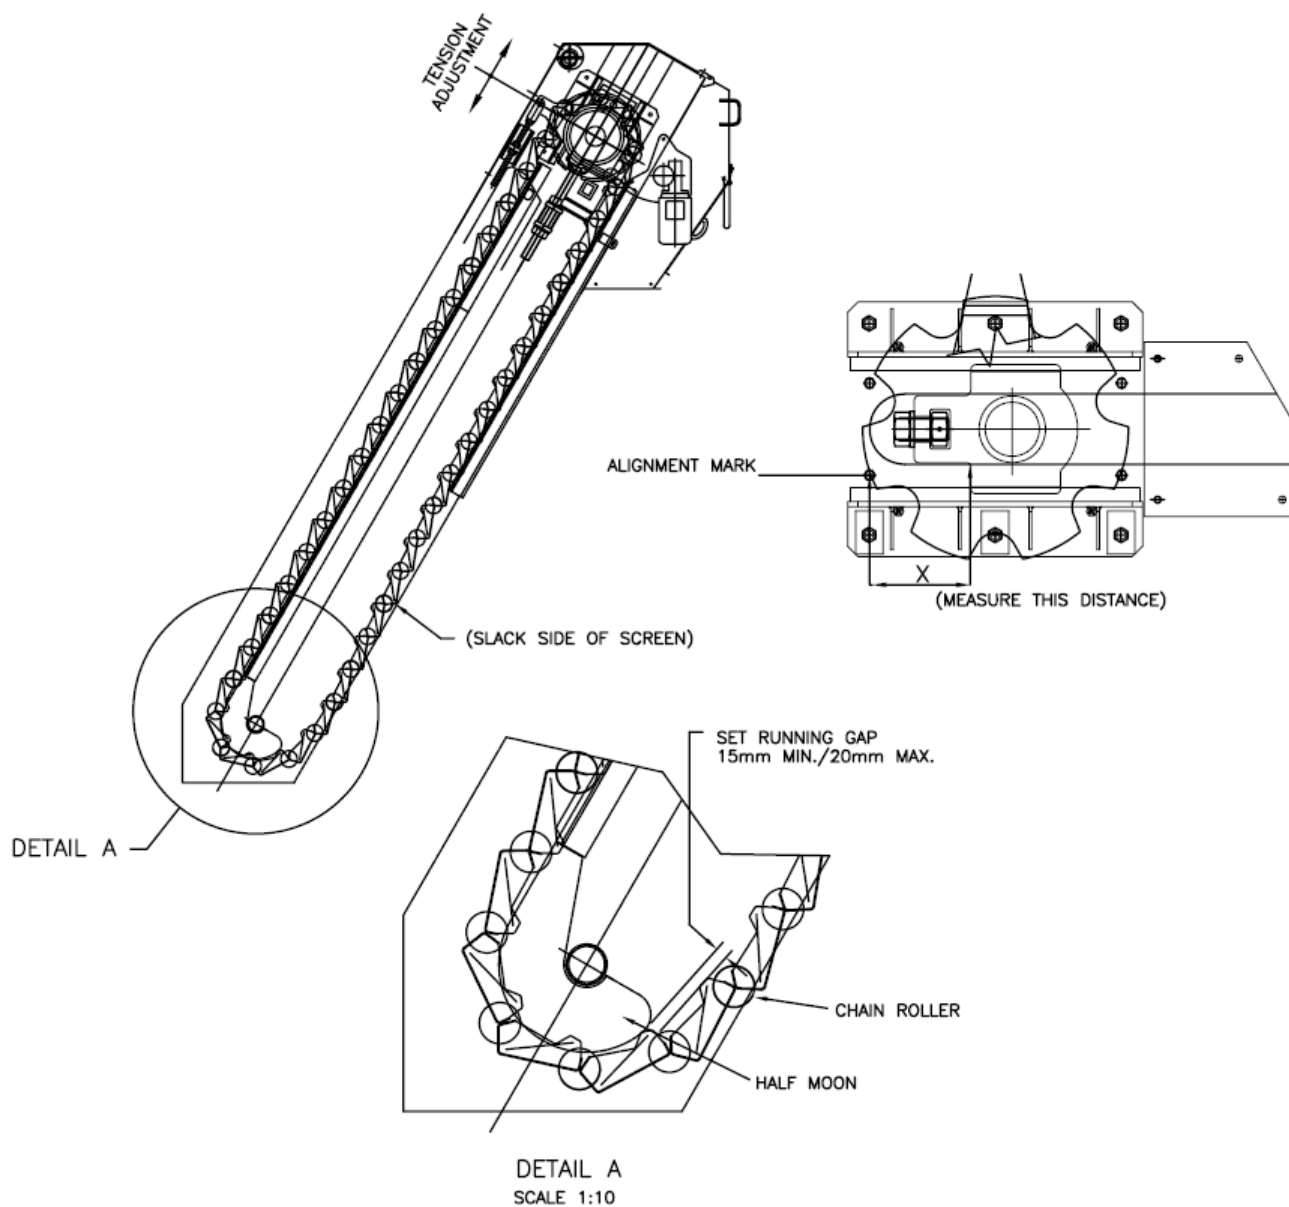

Figure 4-1. Aqua-Screen® Chain Tensioning Diagram
Check the tension of the screen chains. See figure 4-1. Elongation of the screen chain links tends to lower the bottom point of the Aqua-Screen®. Beyond a certain degree of elongation, the angles of the perforated plates start to rub on the base of the Aqua-Screen® or on the channel bottom. Any unusual vibration or consistent hammering noise is a good indication that the chain requires tensioning. A damaged or bent side seal plate may also indicate that chain tensioning is needed.
- a. The roller of the lower point must be in contact with the half-moon plate, as shown on figure 4-1.
Alignment marks are stamped into the bearing slide bar. When adjusting, always measure from this mark to the front side of the bearing housing directly above the slide bar. It is important that this measurement be taken at the same point on the bearing housing. See figure 4-1.